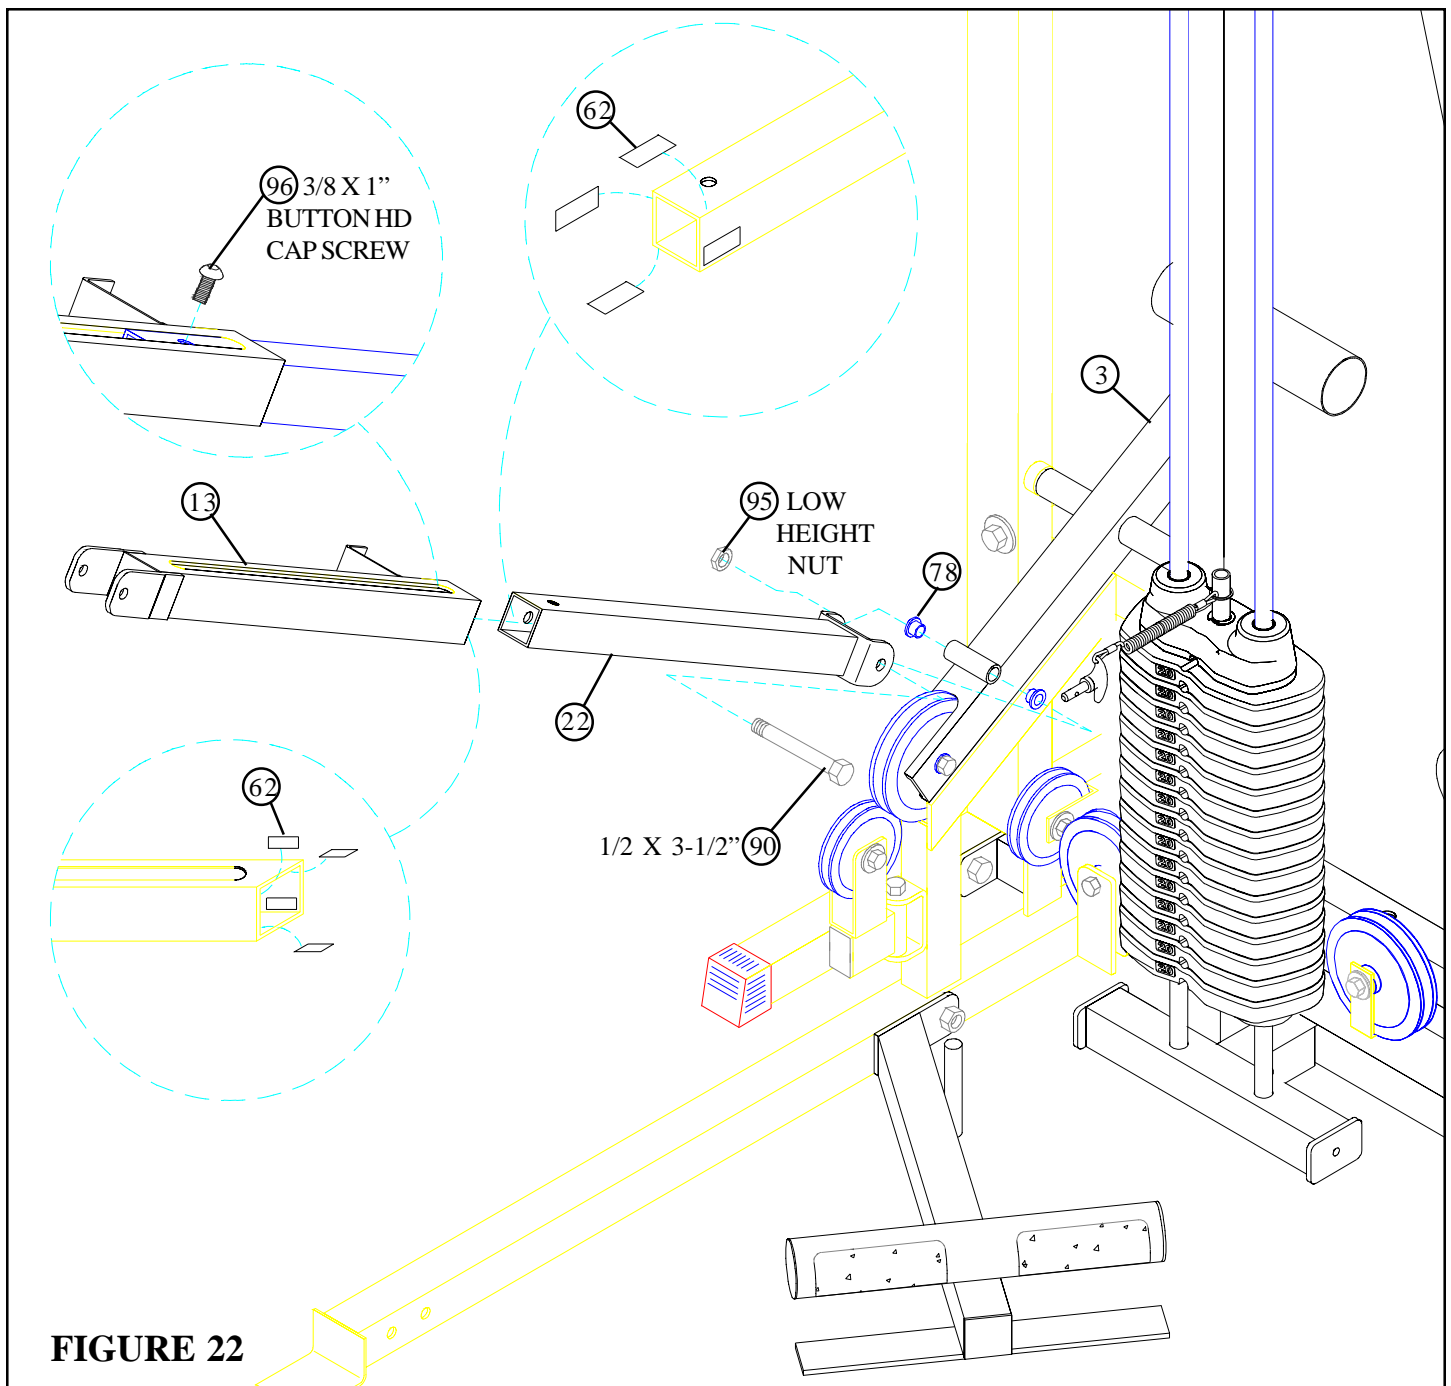

FIGURE 22
- Attach four PARAGLIDE STRIPS (62) **INSIDE** the end of the RECEIVING TUBE (13) and four PARAGLIDE STRIPS (62) to the **OUTSIDE** of the PRESS ADJUSTMENT TUBE (22) using the following steps:
- Thoroughly clean all surfaces where PARAGLIDE STRIPS (62) are to be attached.
- Remove the PARAGLIDE STRIPS (62) from the paper backing and firmly apply them to surfaces. (**NOTE: Orientate the strips so they will slide by each other.**)
- CAREFULLY slide the PRESS ADJUSTMENT TUBE (22) into the RECEIVING TUBE (13). (**NOTE: Make sure the spring pin barrel on the RECEIVING TUBE (13) is on the same side as the holes in the PRESS ADJUSTMENT TUBE (22).**)
- Thread one 3/8 X 1" BUTTON HEAD CAP SCREW (96) through the slot in the RECEIVING TUBE (13) and into the ADJUSTMENT TUBE (22)
- Insert two 1/2" FLANGE BEARINGS (78) into the COUNTER LEVER (3) as shown in FIGURE 22.
- Assemble the PRESS ADJUSTMENT TUBE (22) to the COUNTER LEVER (3) using one 1/2 X 3-1/2" BOLT (90) and one 1/2" LOW HEIGHT LOCK NUT (95). (**NOTE: Tighten the connection enough to remove play, yet allowing the PRESS ADJUSTMENT TUBE (22) to rotate freely.**)